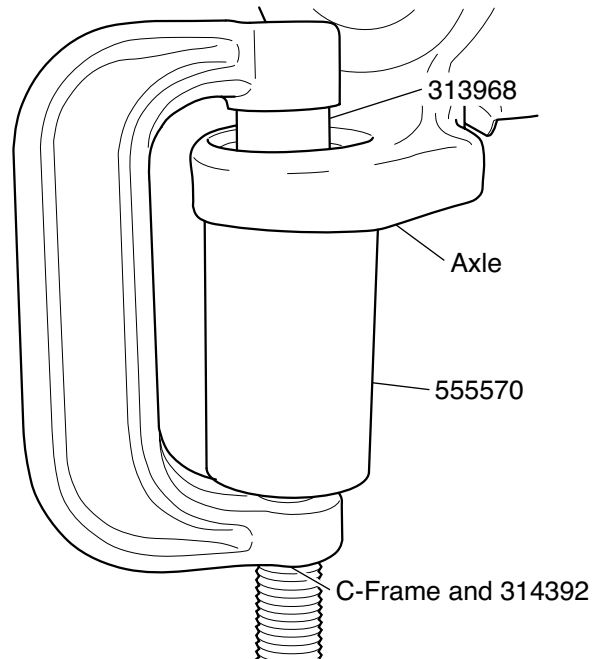

Figure 1. Ball Joint Removal
3. Position 313968, 314392 and the C-Frame as shown in Figure 1.